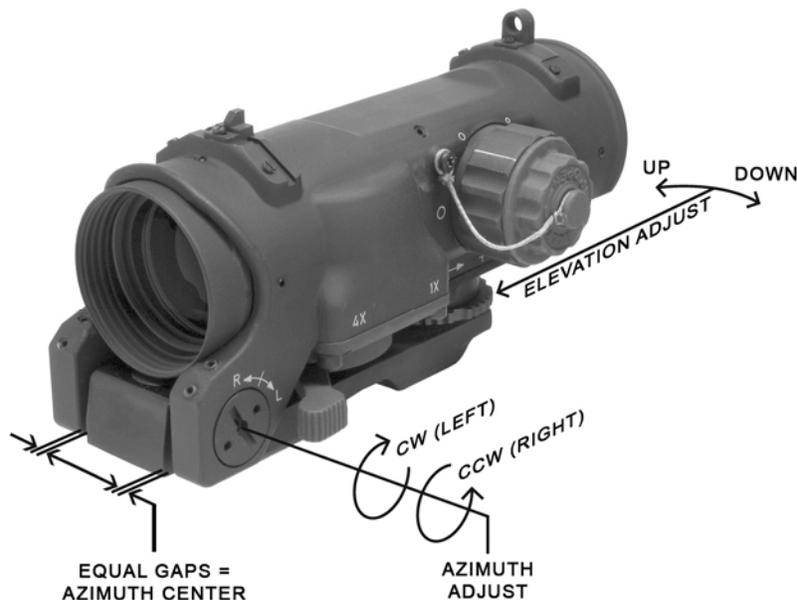

Figure 2-4. Azimuth & Elevation Zeroing Adjusts
The front yoke on the sight housing has space gaps between the yoke and the mount base plate. When each of the two gaps shows equal spacing, the sight is roughly at azimuth centre. Figure 2-4
- Azimuth zeroing uses the windage screw found at the front of the mount. Rotate the front left windage screw clockwise to move the point of impact to the left; counter clockwise to move to the right. Each click of the windage screw moves the point of impact by one-half MOA (approximately 1/2" at 100 yards). Figure 2-4